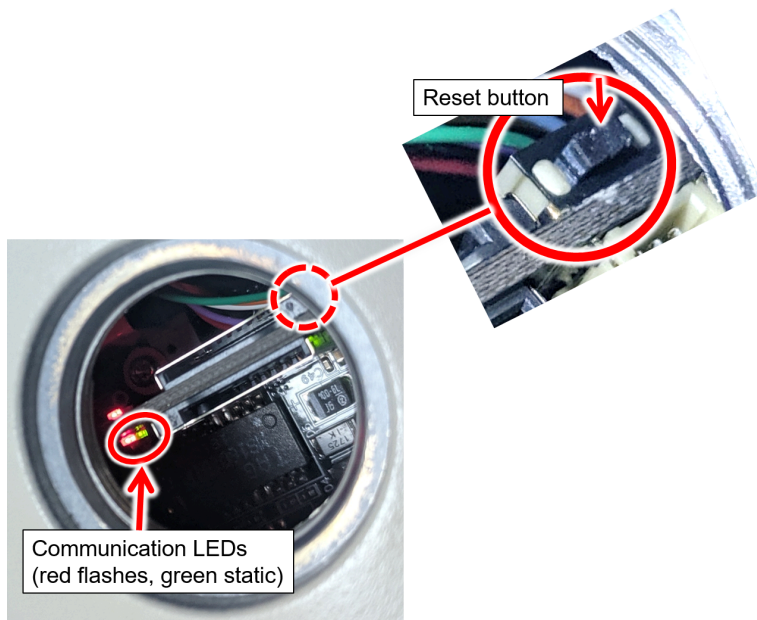

Figure 25. Factory Default (Reset) Button and LEDs
2. Locate the Factory Default (reset) button (see Figure 25).